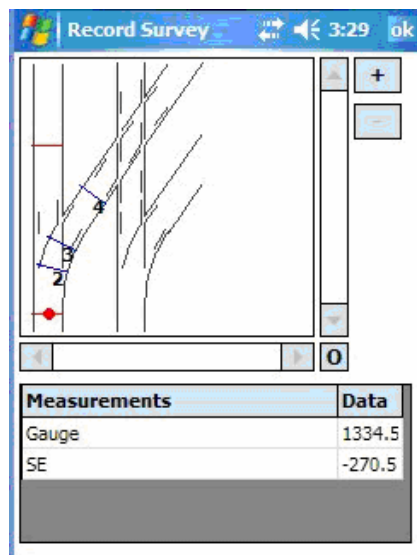

Figure 6
7. When you are confident that the DLSG is in the correct position, tap anywhere inside the Command Box. Some parameters such as 'Flange-Way' and 'Check Gauge' require more than one operation per position, if this is the case continue to follow the graphical instructions in the Command Box until the measurement results are displayed, see *Figure 6*. Tap Command Box again to continue
8. The Command Box now provides the options to 'Redo' the measurement or proceed to the 'Next' survey location. In some cases (as in the highlighted survey location shown in *Figure 6*), a number of measurements are required between two points. To include additional measurement, tap 'Add'